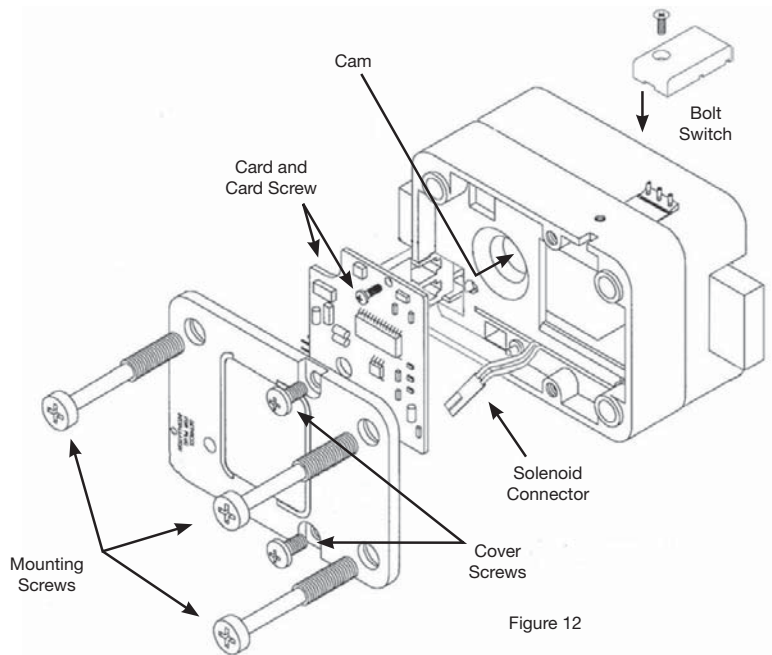

Figure 12
8. Remove the two cover screws from the back cover of the lock assembly, and remove the lock back cover. (Figure 12)
9. Carefully unplug the solenoid connector from the system card. (If applicable, unplug the bolt switch connector from the system card.) (Figure 12)
10. Remove the mounting screw from the system card, and gently lift the system card out of the case. (Figure 12)
13. Next, rotate (counterclockwise) at least 1/2 turn until the groove in the spindle is aligned with the correct spline position. The correct spline position for the installation orientation showing in Figure 12 is RH (for a "Right Hand" door.) Refer to the following **Spline Key Position Chart** for all mounting positions.